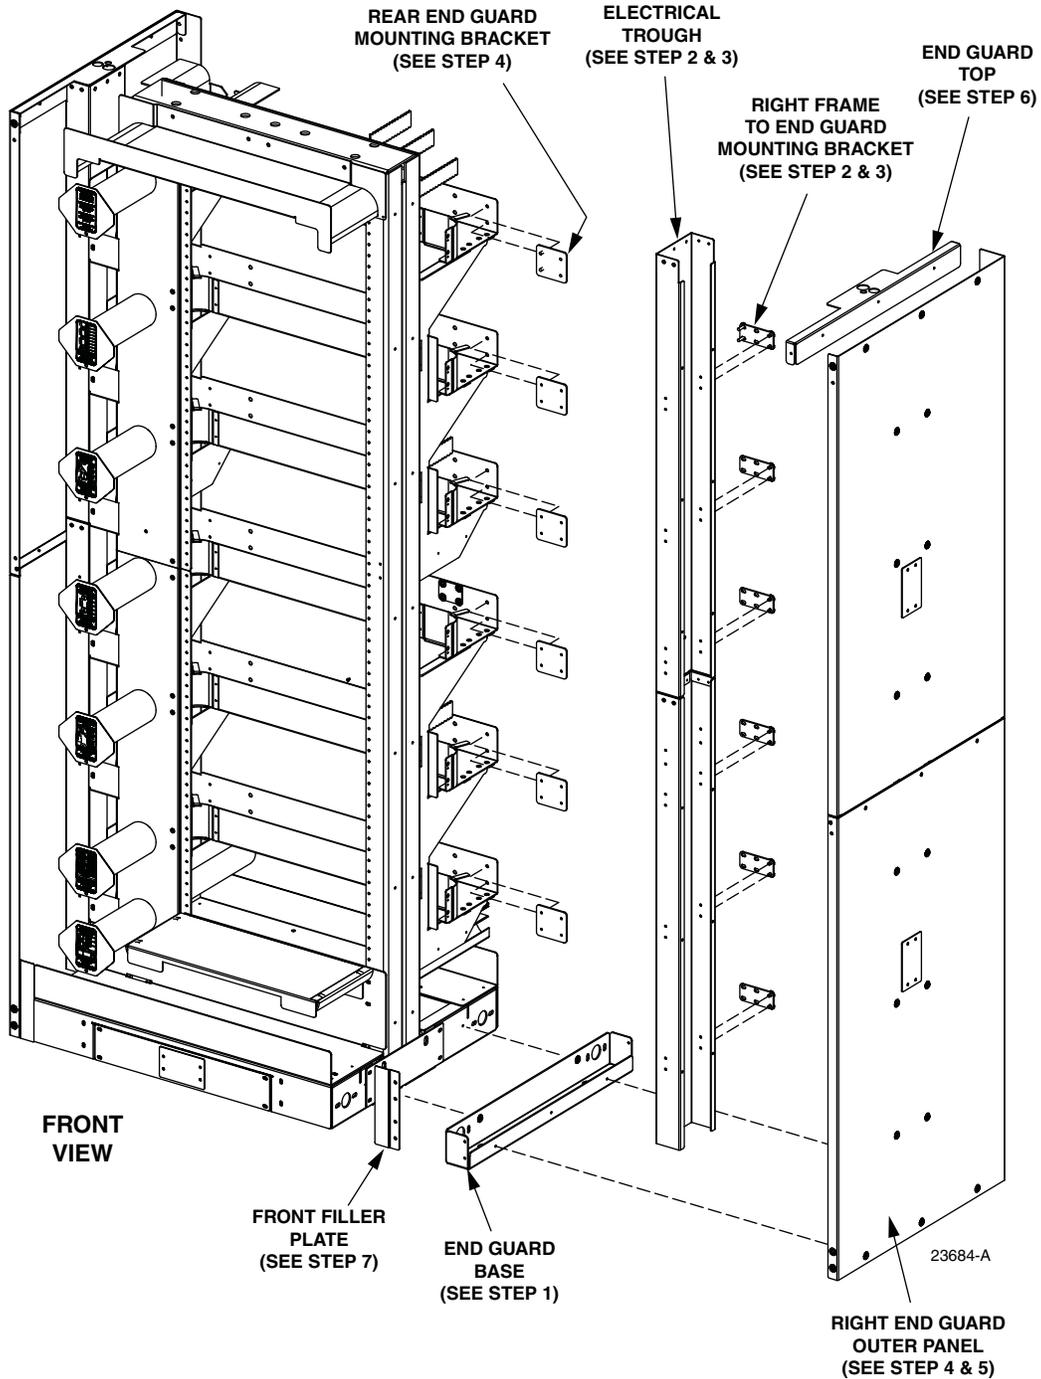
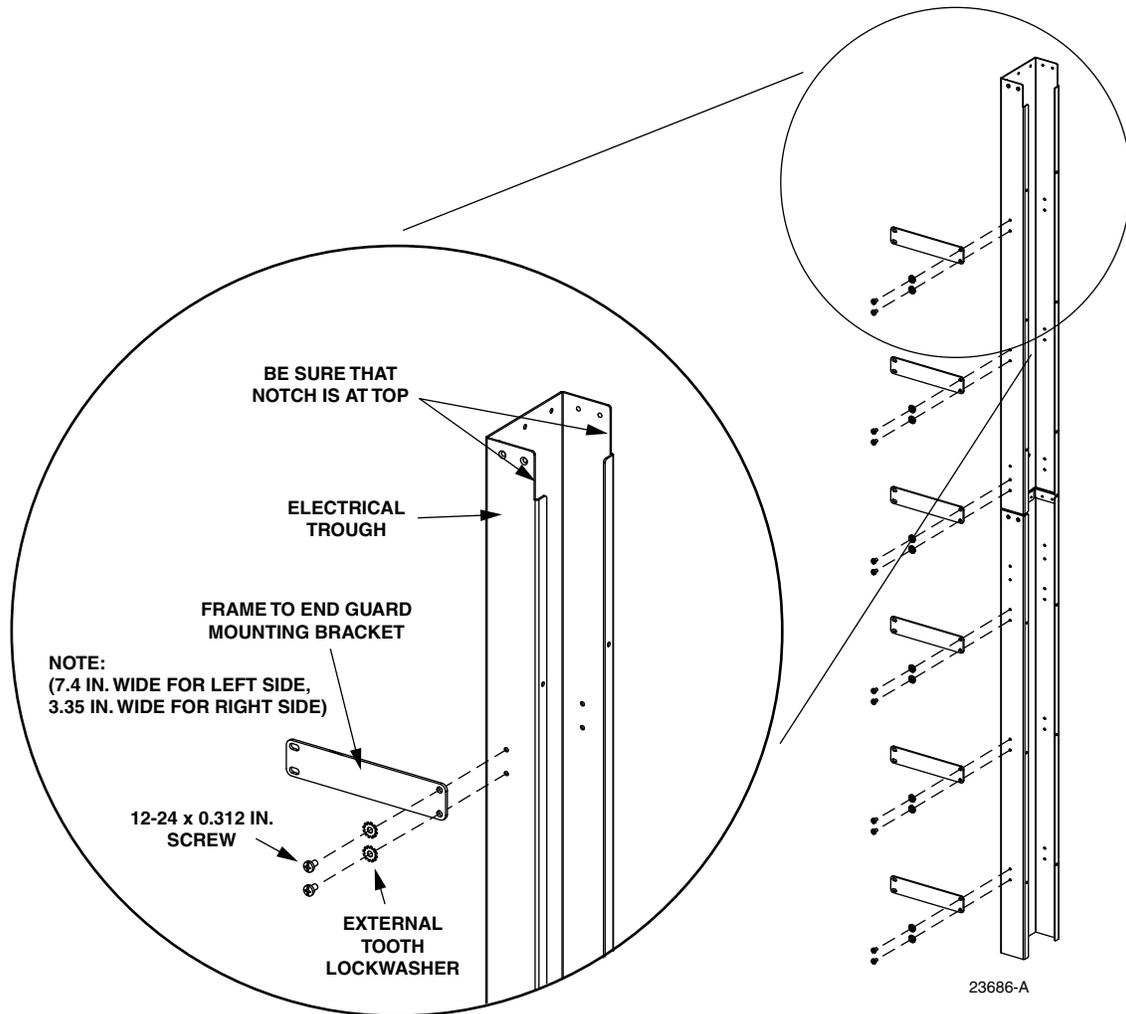
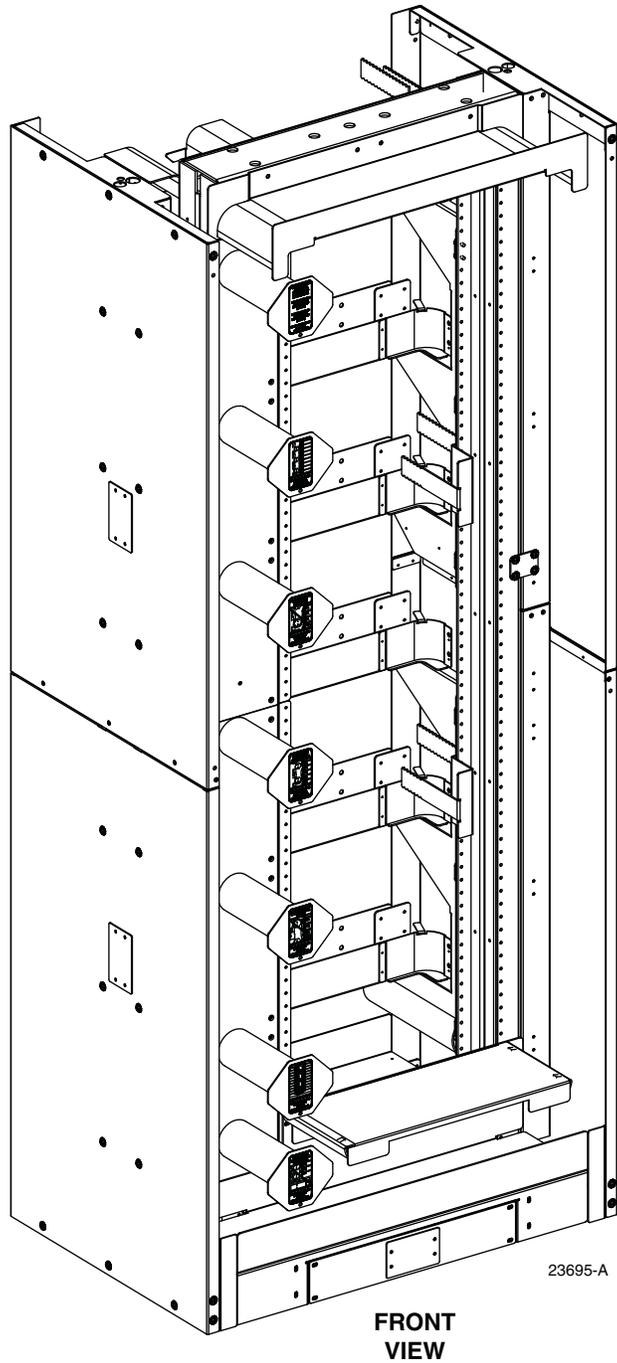

Figure 2. Right Side Installation on Frame Exploded View and Steps
Figure 4. Installing End Guard Mounting Brackets on Vertical Trough
Figure 11. Left Side End Guard Installed on Frame
Figure 2 indicates the six steps in installing an end guard on the right side of an NG3 frame (when viewed from the front). All kit components required for right side installation are shown.
2. Install the six frame to end guard mounting brackets on the electrical trough using two 12-24 x 0.312 inch screws and two external tooth lockwashers for each bracket, as shown in Figure 4.
▶ **Note:** The left side and right side brackets are slightly different. Figure 4 shows the left side brackets. For a depiction of the right side brackets, refer to the exploded view in Figure 2 on Page 4.
8. The end guard installation is now completed. Figure 11 shows the end guard completely installed on the left side of the NG3 frame. For an exploded view of an end guard on the right side of the frame, refer to Figure 2 on Page 4.